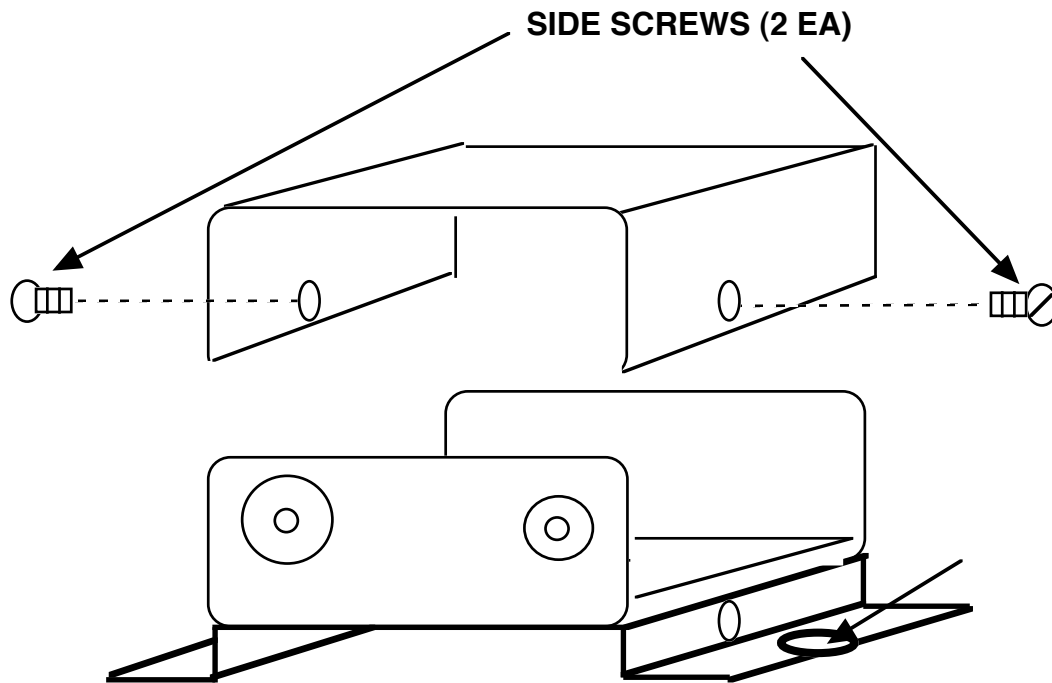
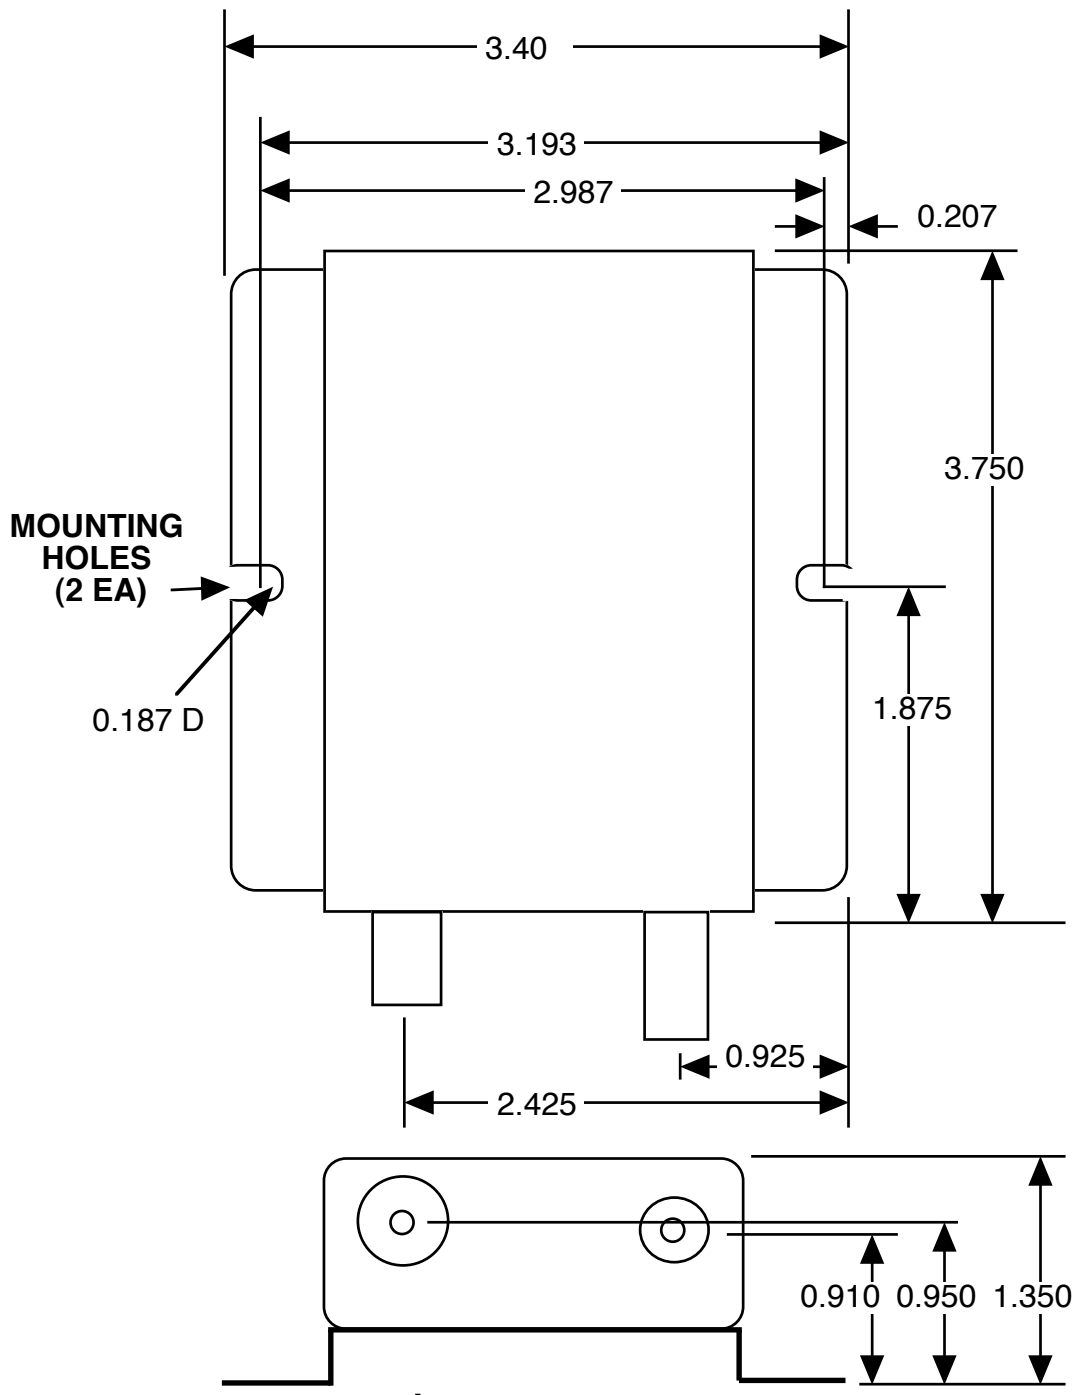

FIGURE 2.1 2006-01 Mechanical Assembly
FIGURE 2.2 2006-01 Package Dimensions
The 2006-01 is packaged in an aluminum chassis. The unit can be mounted to a panel using the 2 holes at the bottom. The unit derives +DC (+14 to +20 VDC) from the RF out center conductor. (See Figure 2.1 and Figure 2.2).
- 1.) Secure the 2006-01 to a panel using the two bottom mounting holes (see Figure 2.1 and Figure 2.2)